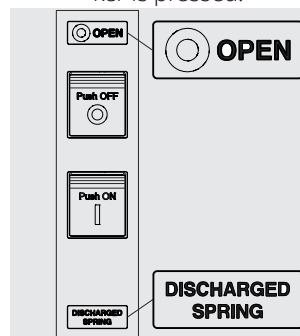

Figure 32
1. Circuit-breaker open with springs discharged (see Figure 32).